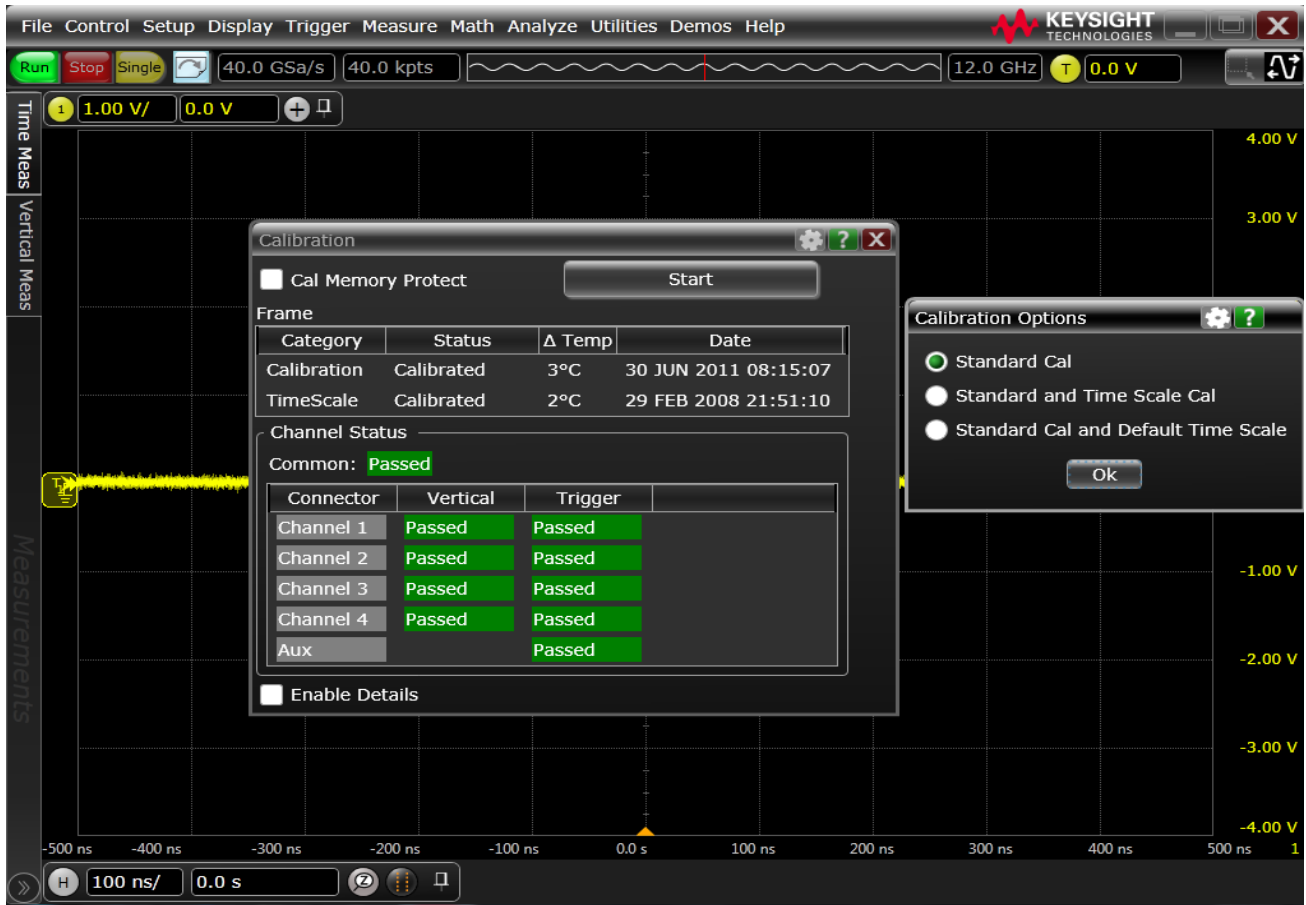

Figure 48 Calibration Options to perform Time Scale Calibration
- c During the calibration of Channel 1, if you are prompted to perform a Time Scale Calibration, as shown in Figure 48 below.